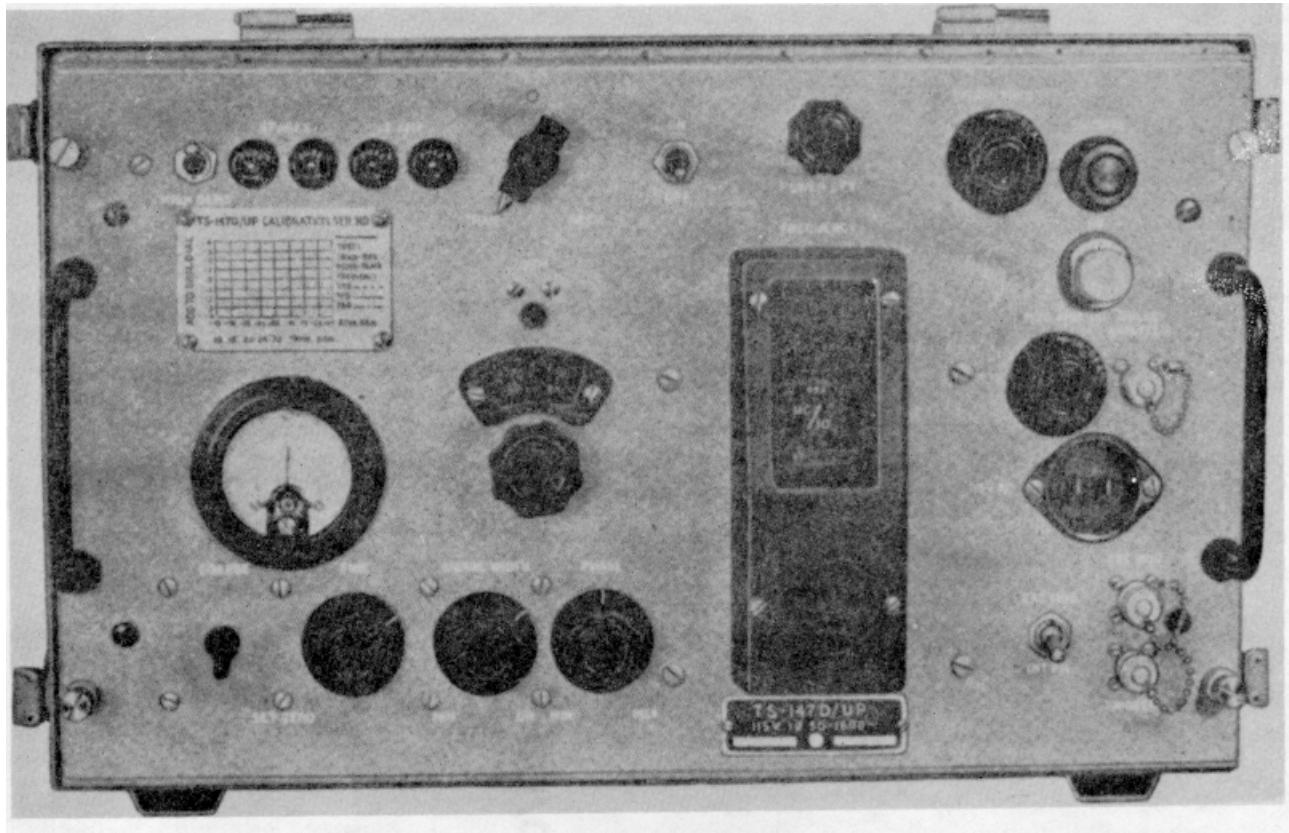

Figure 4-1. Test Set TS-147D/UP
b. Set the following controls: (See figure 4-1.)
(1) Test Set TS-147D/UP (See figure 4-1.) is a the portable power level wattmeter and microwave signal generator for testing and adjusting beacon and radar systems in the frequency band from 8500 to 9600 megacycles.
(2) The test set supplies microwave signals, either frequency modulated, or continuous wave, of known power level and frequency, and also accepts signals for power and frequency measurement. It can be pulse modulated from an external source.
(3) It contains a direct reading frequency meter and a power level wattmeter that, in conjunction with calibrated attenuators, reads power in dbm (decibels with reference to one milliwatt).
(4) In conjunction with an oscilloscope or synchroscope, the test set can be used for alignment and bandwidth measurements of radar receivers and for checking microwave plumbing. Using the FM signal of the test set, the horizontal sweep of an oscilloscope